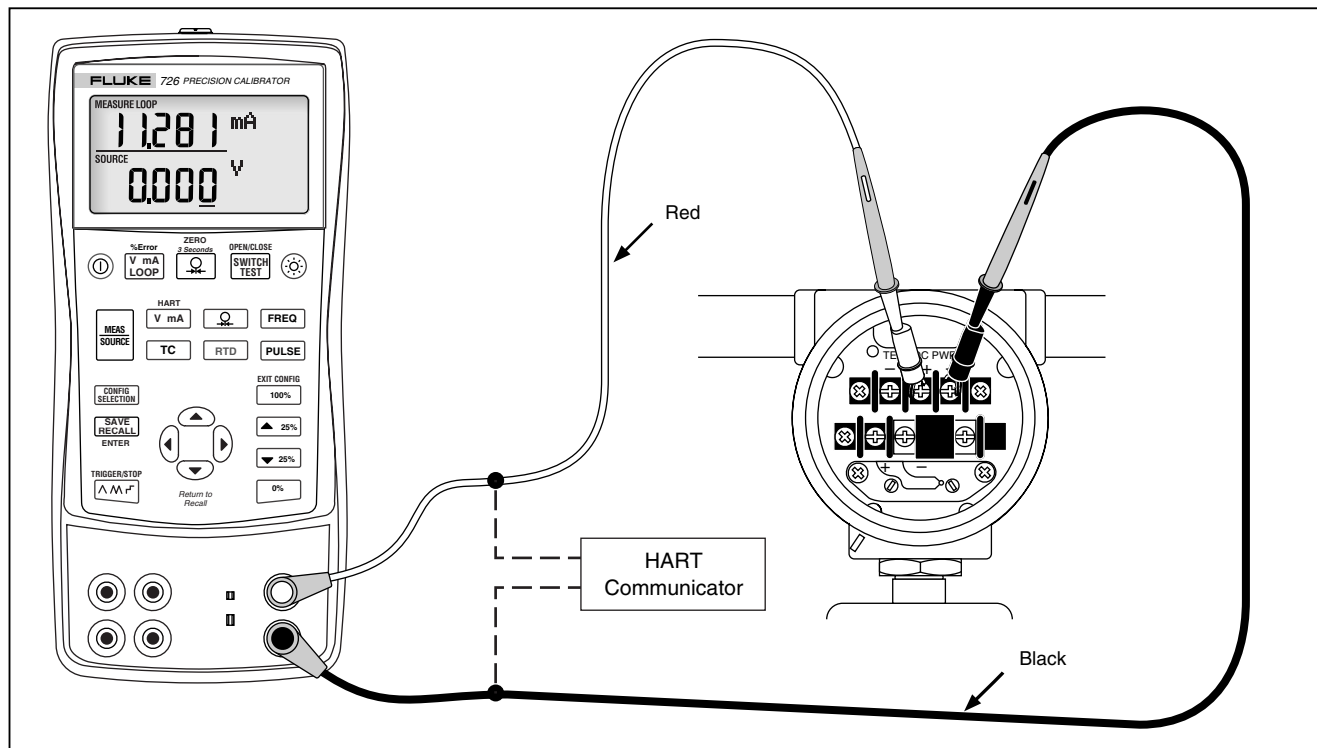

Figure 8. Connections for Supplying Loop Power
1. Connect the Calibrator to the transmitter current loop terminals as shown in Figure 8.